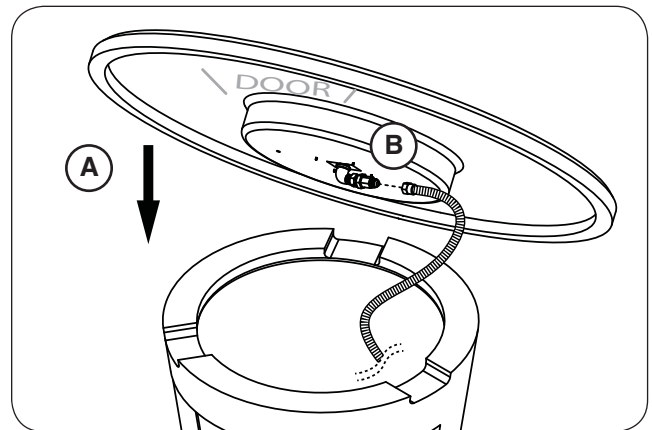

Fig. 17-3 Place top and connect flex
3. **CAREFULLY** place the top on the unit (see Fig. 17-3, A).
4. Locate the flex connector (marked OUT) that is coming off the valve assembly. Route it to the connection found on the underside of the firetable top and connect. Tighten securely. See Fig. 17-3, B.